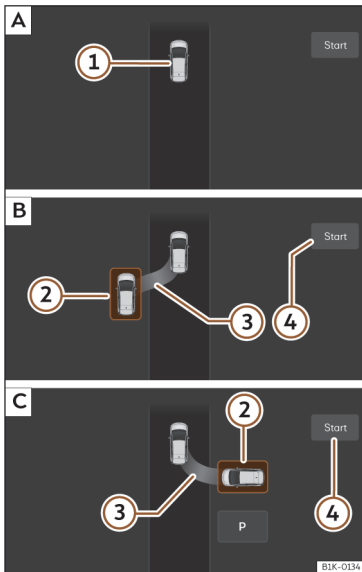

Fig. 151 On the Infotainment system screen. **A**: Finding a parking space **B**: Parallel parking position. **C**: Perpendicular parking position.
- Look at the display on the infotainment system's screen to see if the space has been detected as "appropriate" and if the correct position for parking has been reached >>> **Fig. 151 B** or **C**. Stop the vehicle and follow the instructions shown on the infotainment screen.
- Stop the vehicle, press the brake and, after a short pause, press the **Start** ④ button in the infotainment system.